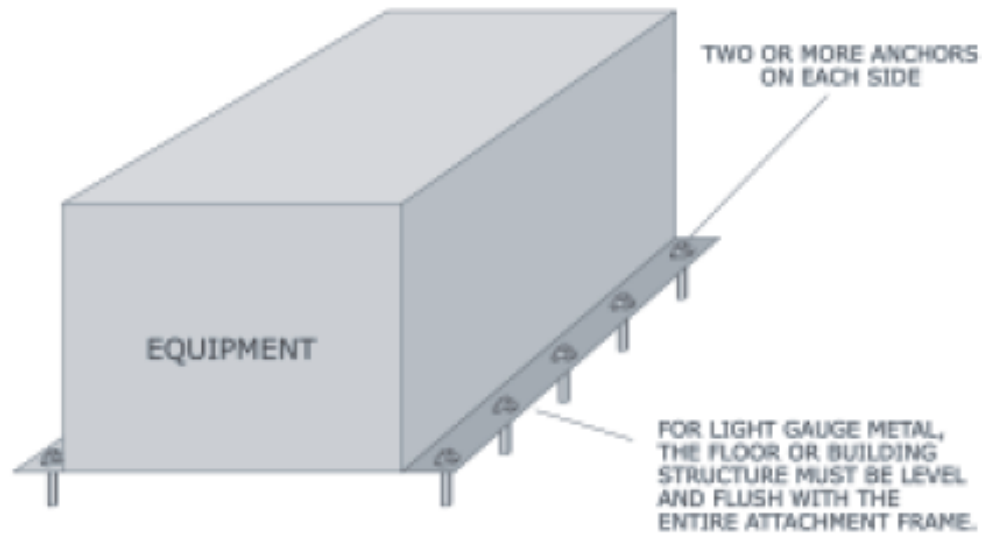
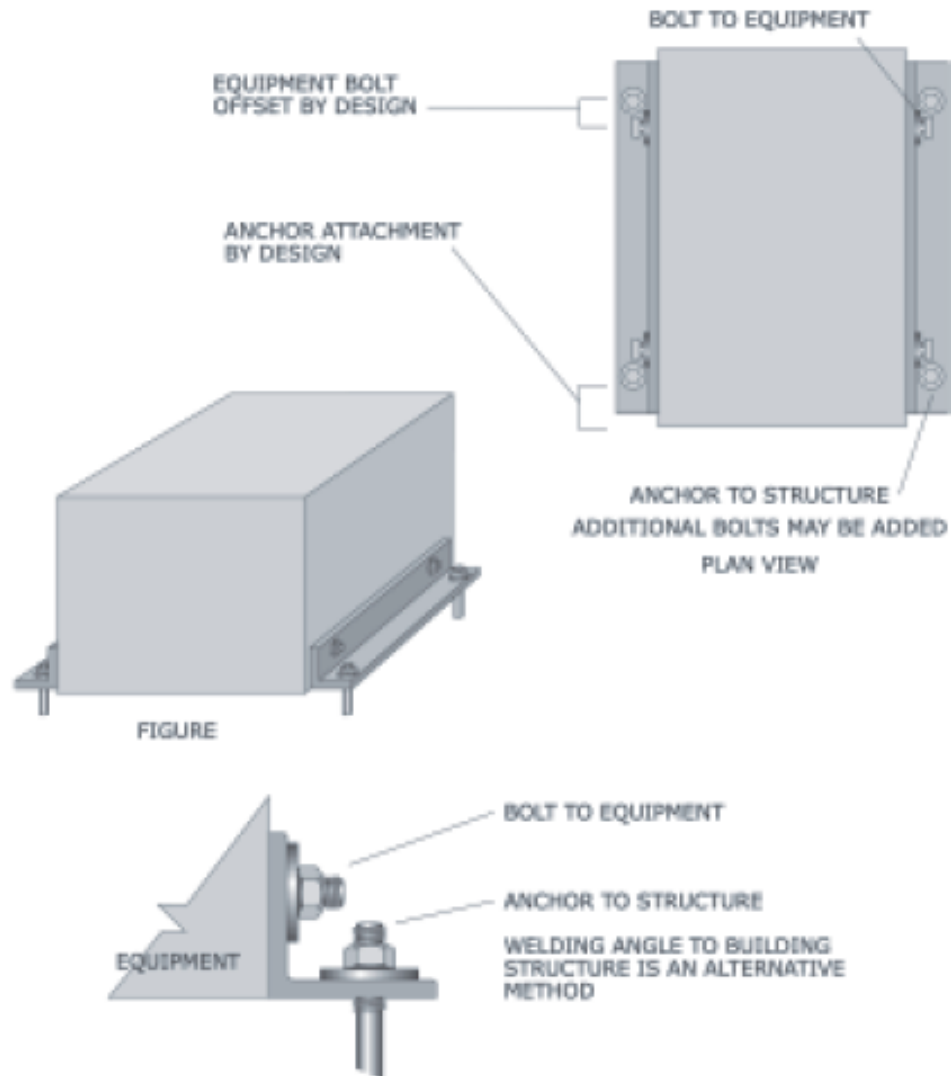

Figure 67: Direct attachment of equipment with sheet steel housing to a building.
Figure 71: Two angles used to attach the equipment to the building.
**Do not add shims under equipment with sheet steel housings as shown in Figure 67 above. If concrete floor/pad is irregular, reinforce housing with angles as shown in Figure 71 (page 36).**
- Full-size angles on each side of equipment: Figure 71 (page 36).